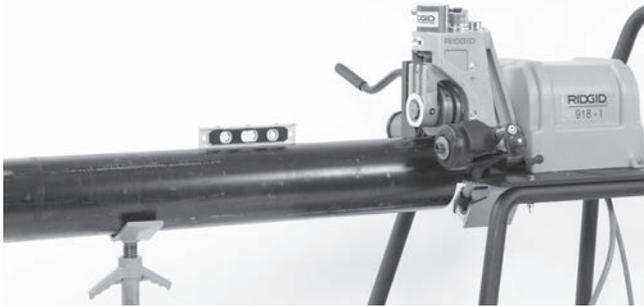

Figure 12 – Leveling Pipe
- Move the ON/OFF Switch to the ON position. Press and release the foot switch. Check that the groove roll rotates in a clockwise direction matching the pipe rotation decal on the groover, *See Figure 12*. Have the machine serviced if it rotates in the wrong direction or if the foot switch does not control its stopping or starting.
- The centerline of the pipe and the centerline of the drive shaft should be parallel. This can be checked with a level on top of the hydraulic cylinder and on the pipe. See Figure 12.